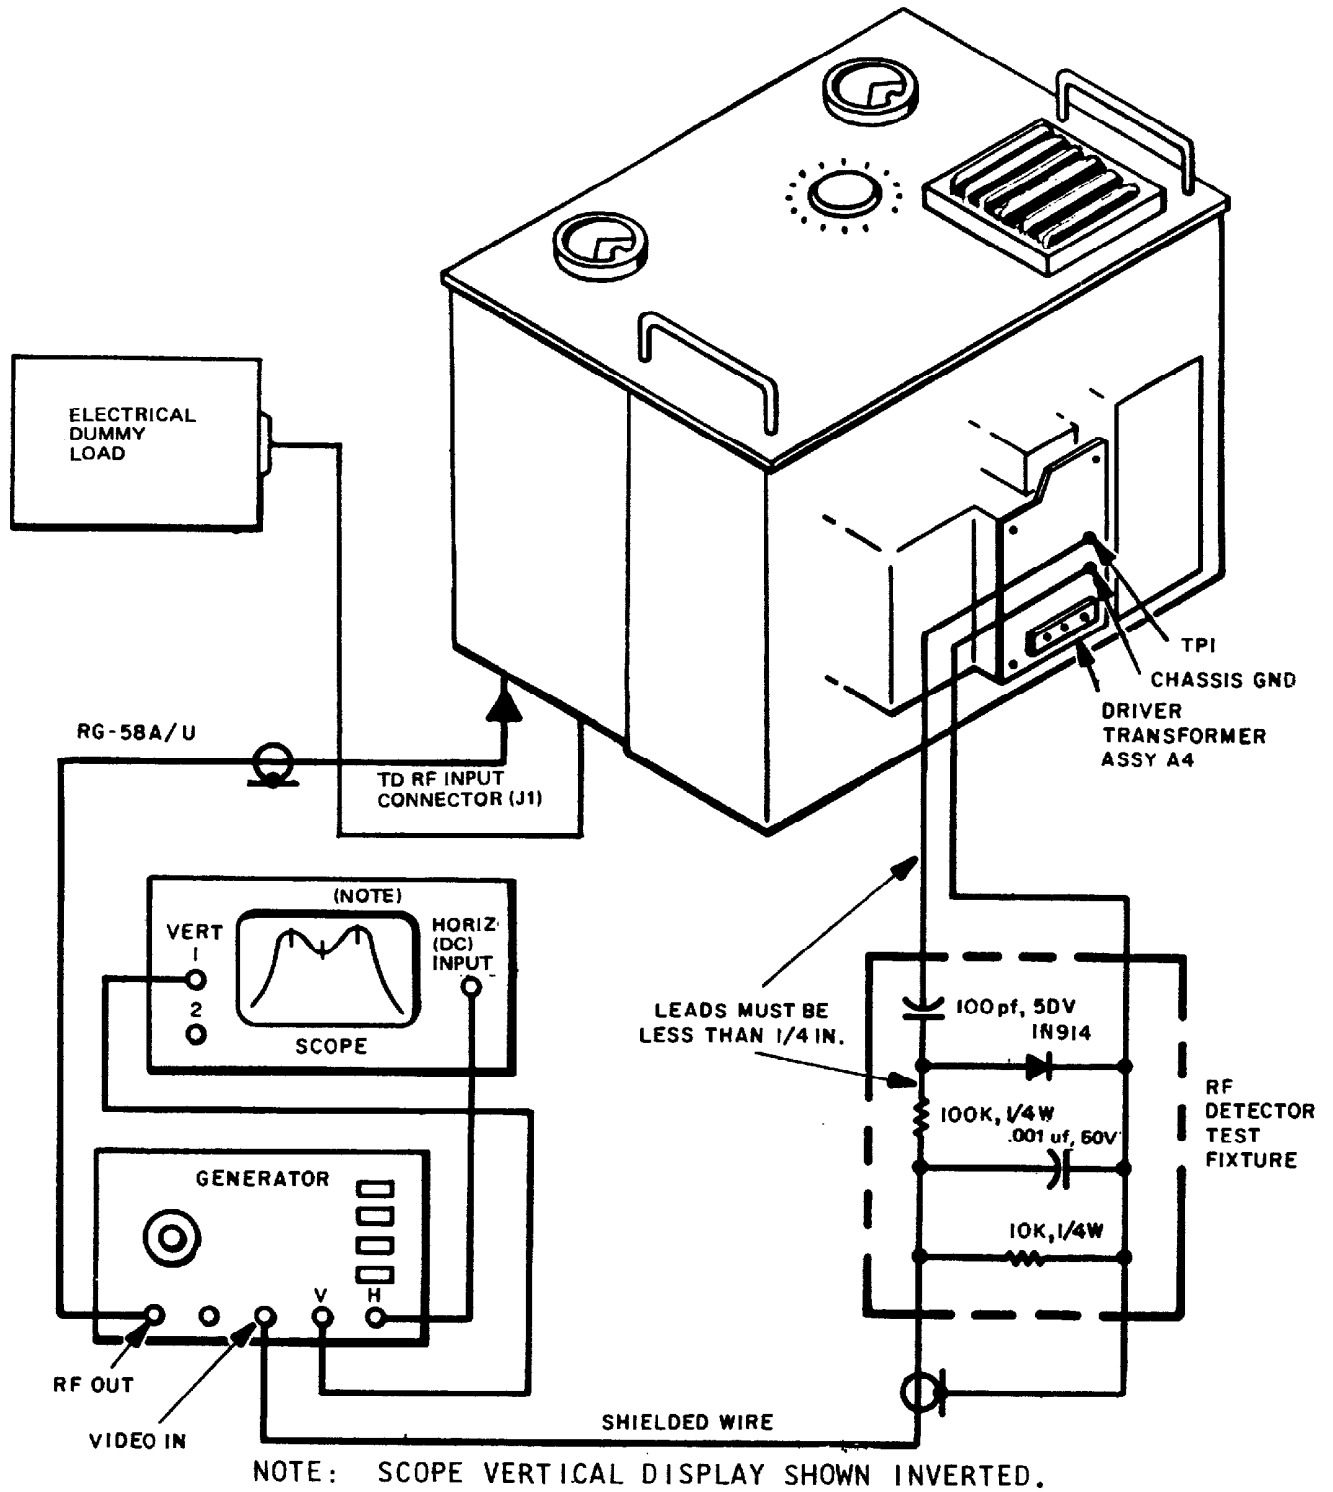

Figure 5-1. Driver Transformer Alignment, Test Setup
- c. RF Detector Test Fixture (figure 5-1). This test fixture may be purchased from RF Communications (part no. 1001-0041) or fabricated from standard parts. If fabricated, the components should be mounted on a surface no larger than 1/2 by 3/4 inches, with lead lengths no longer than 1/4 inch.
f. Locate TP1 on the Driver Transformer Assembly (bottom rear of the unit). Connect the RF detector to TP1 as shown in figure 5-1. The output from the RF detector is delivered to the sweep generator VIDEO IN via shielded wire or coaxial cable.